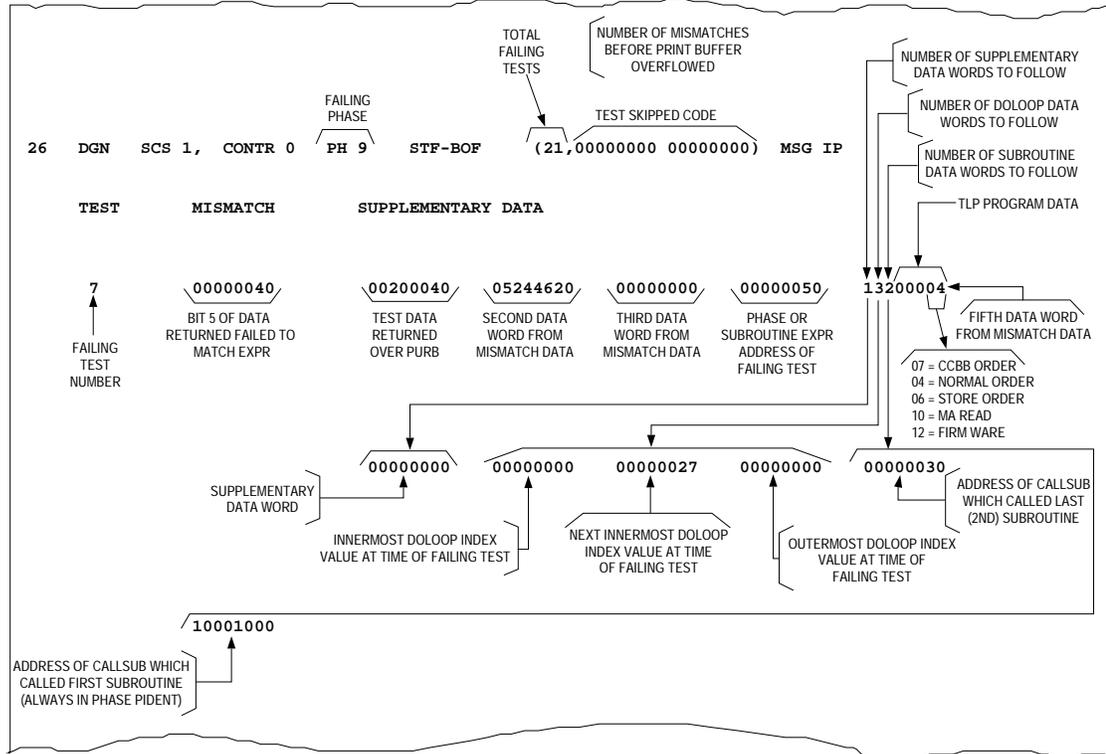

Figure 1. Example of SCS Controller Raw-Data Printout
2. On the raw-data printout (see Figure 1), locate the raw data of the first failing test.
6. Locate fourth raw-data word following mismatch data. (See Figure 1.)
12. On raw-data printout (see Figure 1), locate the fifth word from the mismatch data.